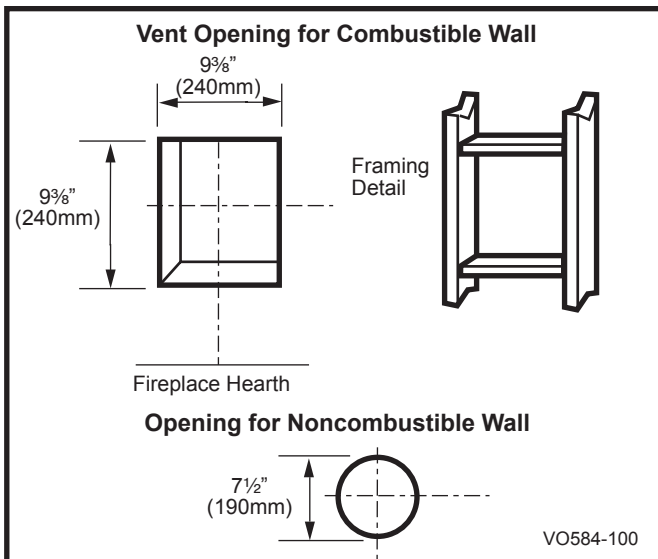

Fig. 17 Locate vent opening on wall.
Locate vent opening on the wall. It may be necessary to first position the fireplace and measure to obtain hole location. Depending on whether the wall is combustible or noncombustible, cut opening to size. (Fig. 17) For combustible walls first frame in opening.
Combustible Walls: (Fig. 17) Cut a 9⁵/₈"H x 9⁵/₈"W (240 x 240 mm) hole through the exterior wall and frame as shown.
Noncombustible Walls: (Fig. 17) Hole opening must be 7 1/2" (190 mm) in diameter.
1. Establish vent hole through the wall. (Fig. 17)